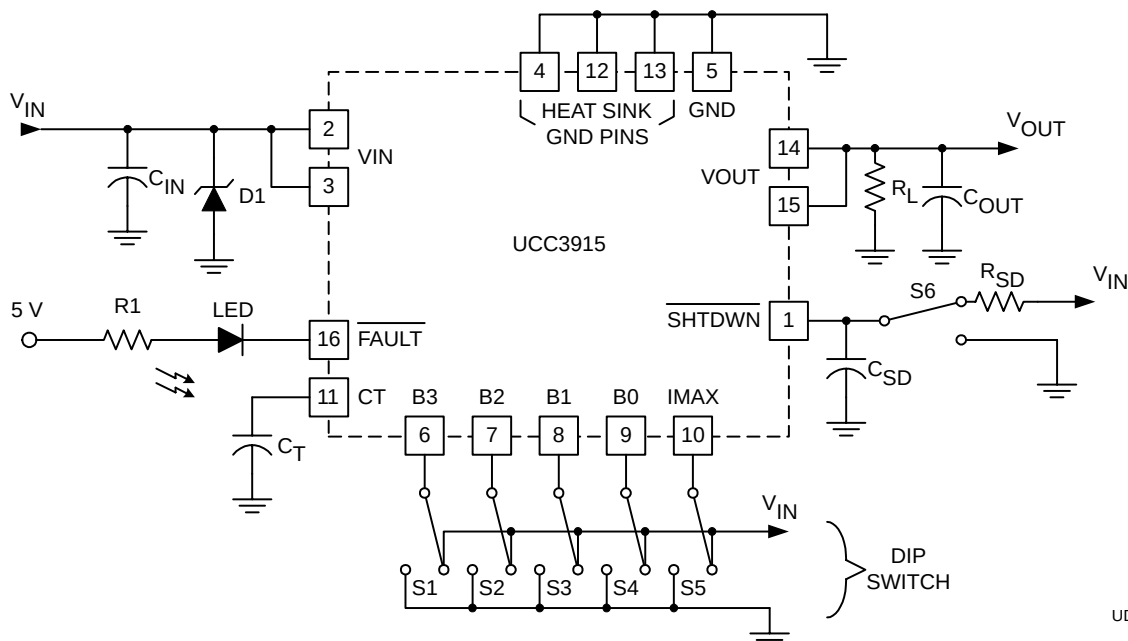

Figure 1. Evaluation Circuit
- Decoupling V_{IN} with a capacitor, C_{IN} (refer to Figure 1), located close to the V_{IN} pins. This capacitor is typically 1 μ F or less to limit the inrush current.
- Clamping the voltage at V_{IN} below 15 V with a Zener diode, D1 (refer to Figure 1), located close to the V_{IN} pins.